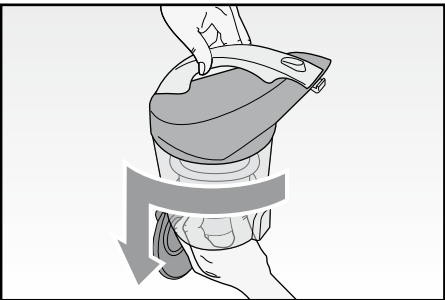

Fig. 8
- To clean the container (A) fully, it is necessary to disassemble it completely, as described here below:
- remove the whole filter by turning it clockwise (Fig. 8);